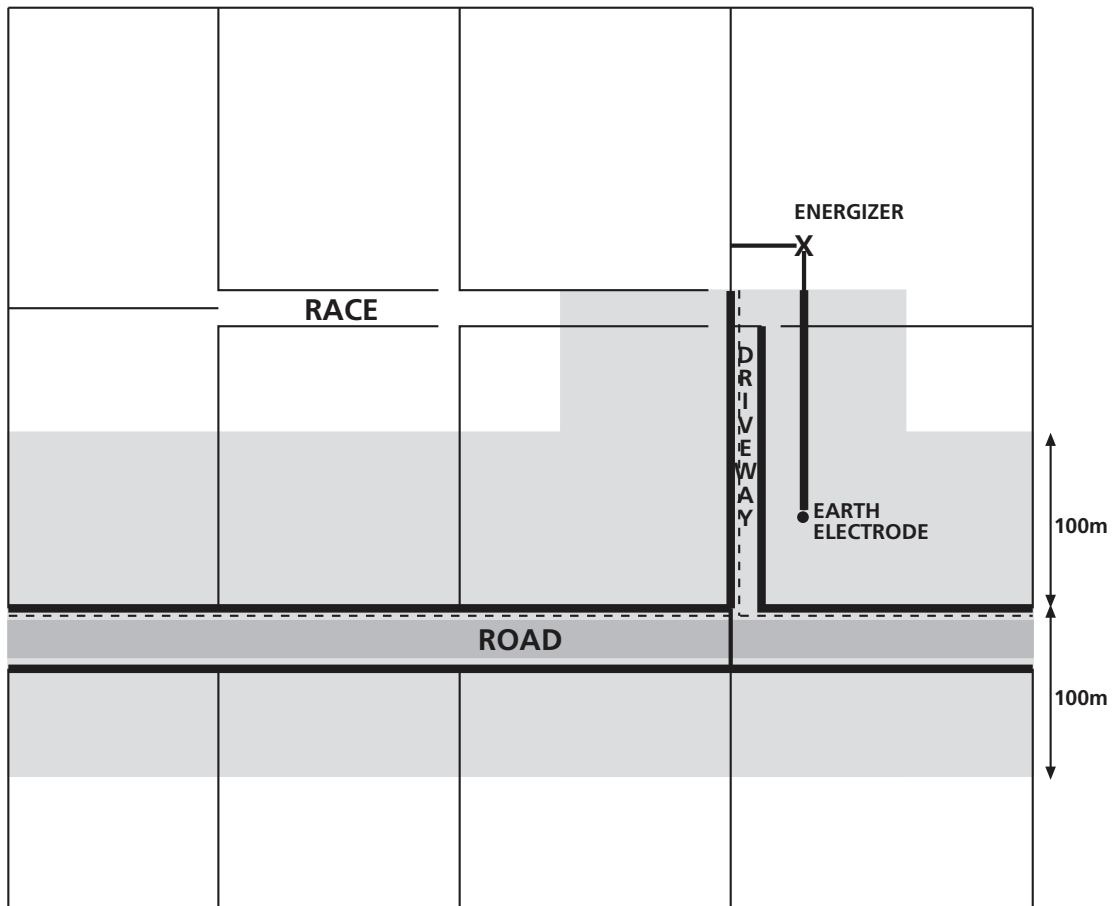

Figure 8.3
3. Draw on the plan a shaded stripe 200m wide centred on each of the communication cables or lines as shown in *Figure 8.3*. Electric fence wires within the shaded area are the most likely to cause interference due to their close proximity to the communication cables or lines.
4. Highlight on the plan those fence wires that run parallel to communication cables or lines, and are within 100m of them as shown in *Figure 8.3*. Those at right angles to cables or lines will not normally cause significant interference and may be ignored.